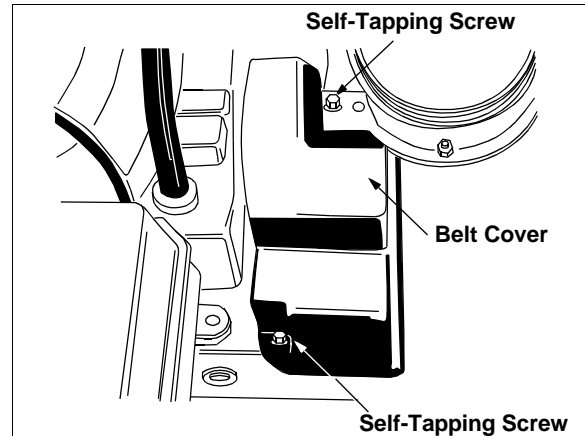

Figure 23
- Remove the plastic belt cover on the front of the engine by removing the two self-tapping screws. See Figure 23.